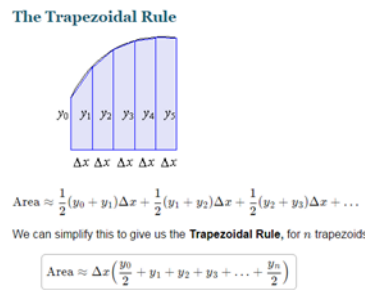

Figure 78 Trapezoidal Rule
- ii Evaluate total area below 0 volt by using Trapezoidal Method Area Calculation (refer to Figure 78)